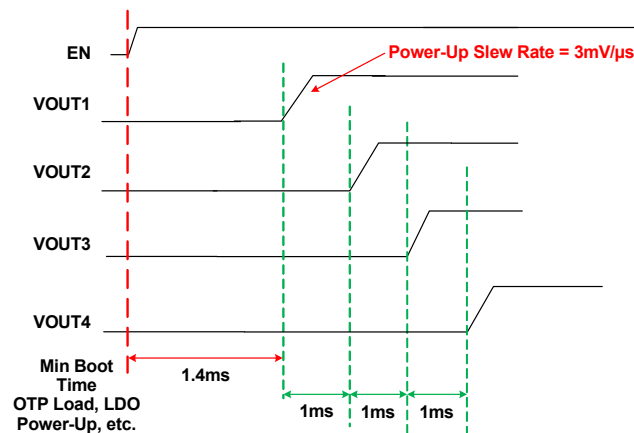

Figure 36. Chip Power-Up Example
Figure 36 provides an example of power-up configurability. The master chip enable pin (EN) transitions from 0 to 1 and OTP is loaded over 1.4ms. After that initial 1.4ms boot interval, the buck output startup sequence begins. In the Figure 36 example, BUCK1\_EN\_DLY is set for 0ms, BUCK2\_EN\_DLY is set for 1ms, BUCK3\_EN\_DLY is set for 2ms and BUCK4\_EN\_DLY is set for 3ms.